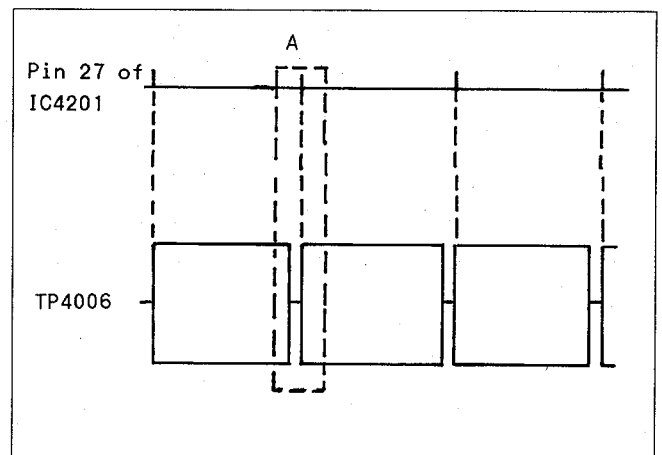

Fig. E9
2. If the envelope has the drop out (A-portion of TP4006 in Fig. E9), adjust the AUDIO HEAD SW (R4236) so that the audio envelope has no drop out portion as shown in Fig. E9.